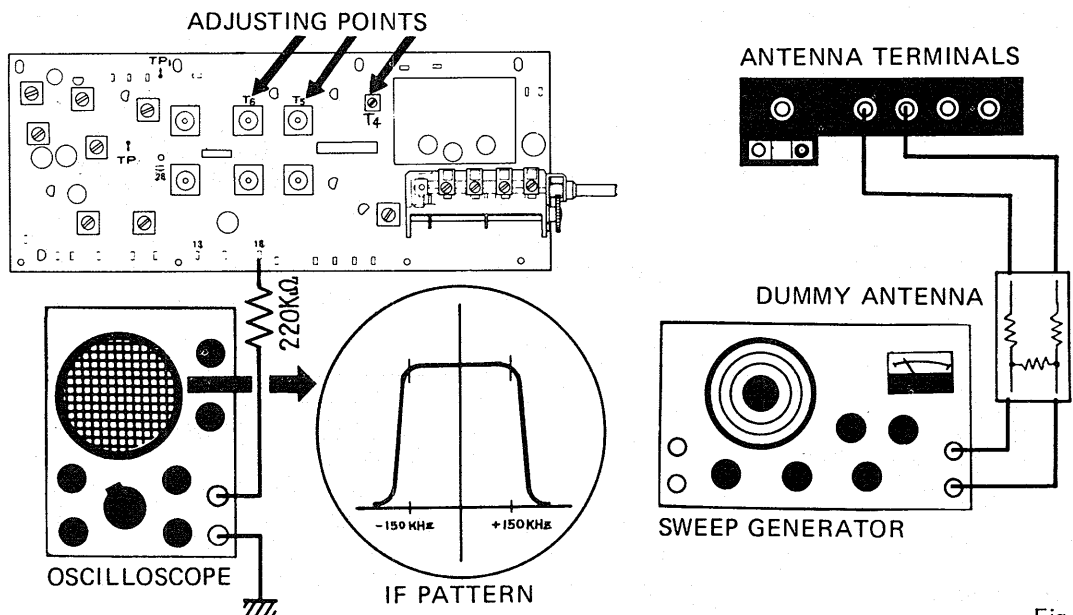

Fig. 7
- b) Connect a $220\text{k}\Omega$ resistor in series with the vertical input terminals of the oscilloscope (Fig. 7).
- f) Connect the output leads of the sweep generator to the FM antenna terminals (Fig. 7).
- i) Adjust the FM IFT cores (T4, T5, T6) as shown in Fig. 7.